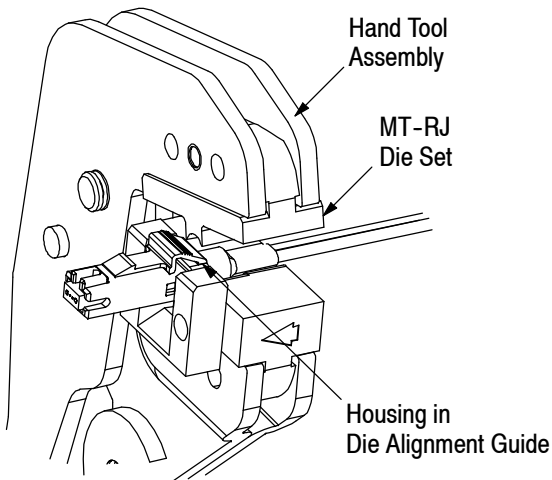

Figure 33
3. Fan the strength members over the spring push knurl, position the eyelet over the strength members, and place the housing into the die alignment guide of the MT-RJ die set. See Figure 33.